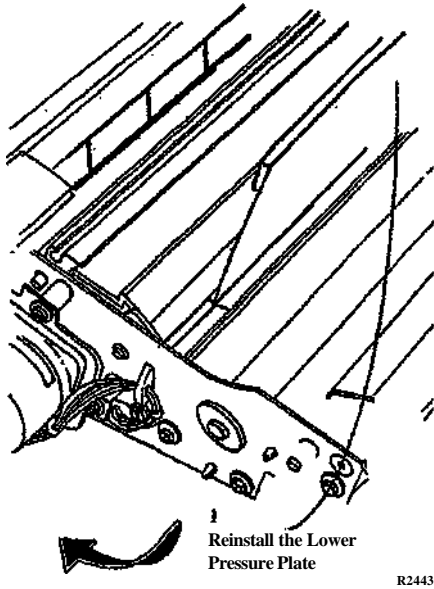

Figure 2. Reinstalling the Lower Pressure Plate
1. (Figure 2): Reinstall the Lower Pressure Plate.